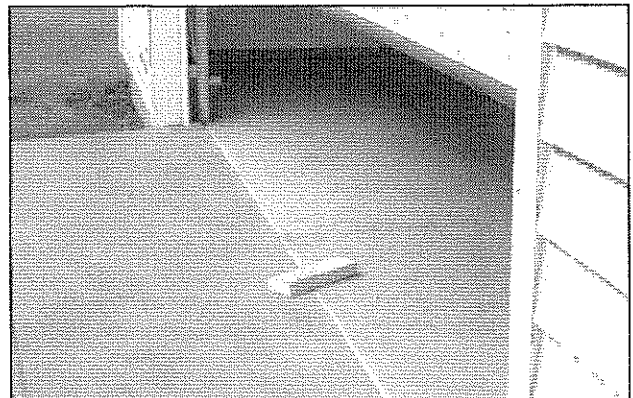

FIG. 6-5 2 x 4 under center of door opening.
- Place a 2" x 4" board (laid flat) under center of garage door opening (Fig. 6-5).